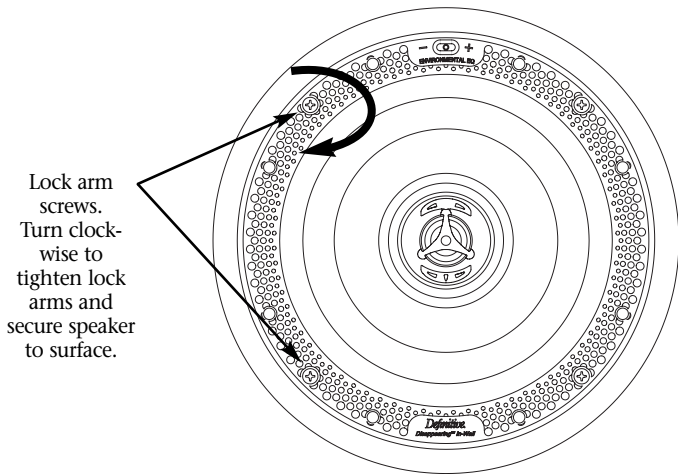
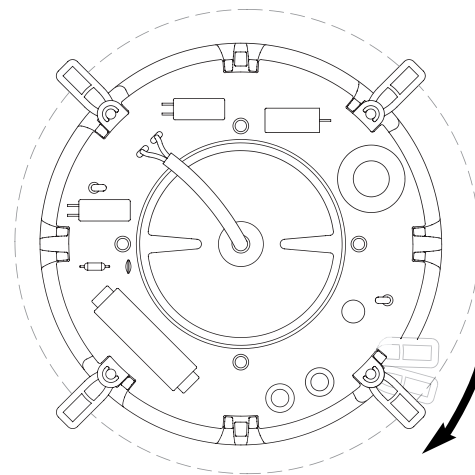

Figure 15
Figure 16
- Place the speaker carefully into the cutout. If you have a level, use it to help you correctly align rectangular speaker models. Tighten the lock arm screws with a screwdriver [Figure 15]. This will rotate the lock arms [Figure 16] and secure the speaker to the wall/ceiling. Do not over-tighten the lock arm screws. If you are using a powered screwdriver or drill set the torque to a value of 7 in. – lb. (8dN – m)